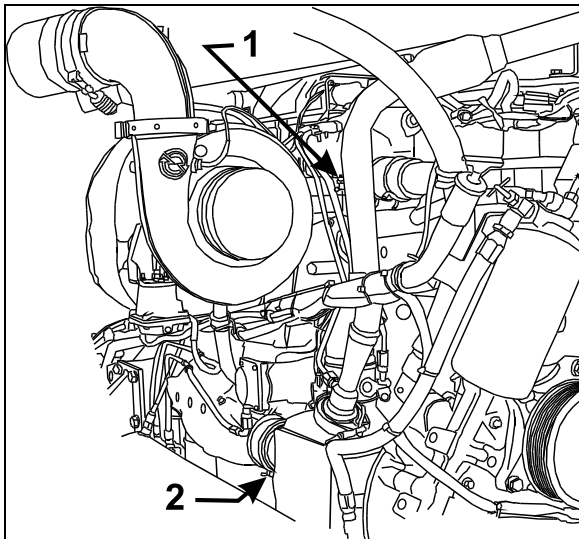

FIGURE 6: ENGINE COOLANT DRAIN COCKS 05088
4. Open drain cock at bottom of thermostat housing to drain the coolant trapped above the thermostats (1, Fig. 6).
6. Open engine drain cock (2, Fig. 6).